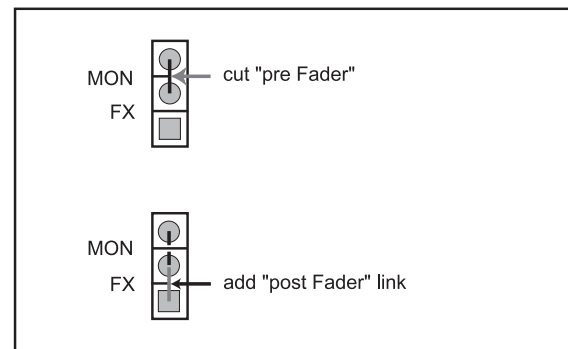

Fig. 5.1: Modification MON/FX "pre fader" > "post fader"
2. The positions in question are found on the part of the circuit board located perpendicular to the front side. Please observe figure 5.1.